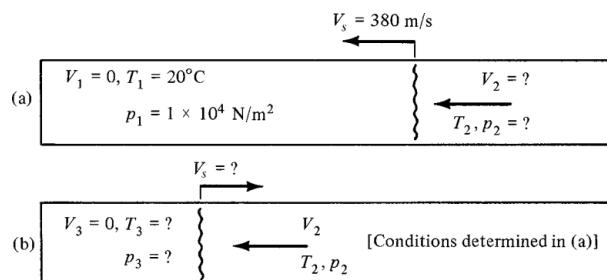

Figure P7.5
- 7.5** A closed tube contains nitrogen at 20 °C and a pressure of $1 \times 10^4 \text{ N/m}^2$ (Figure P7.5). A shock wave progresses through the tube at a speed of 380 m/s.